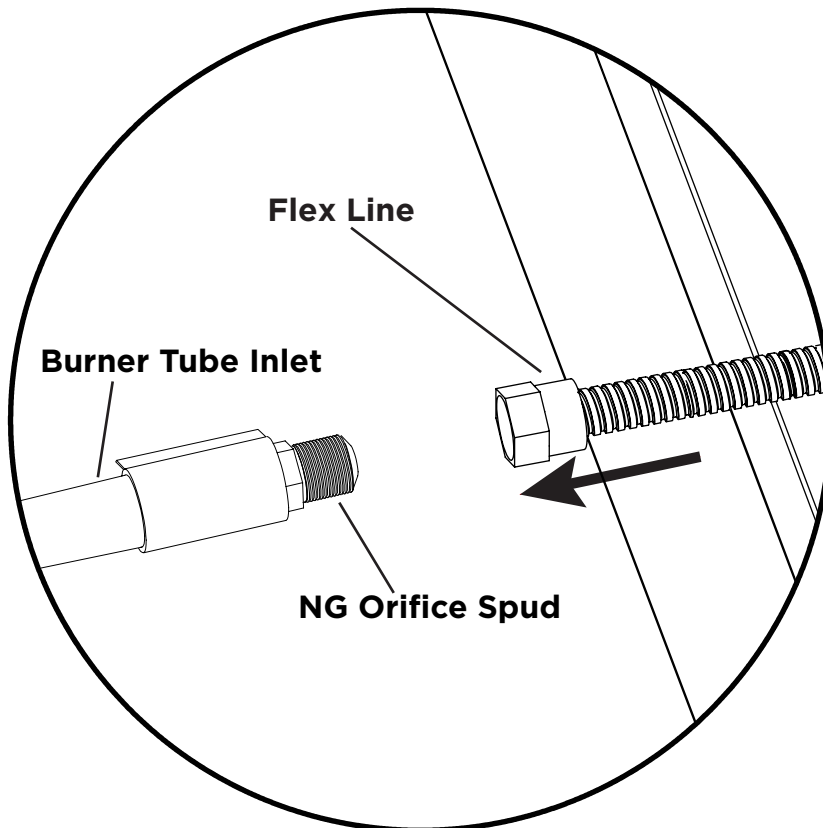

**Fig. 1**
6. Slip the sleeve over the primary air opening (see Fig. 1). Next, screw the new NG orifice spud into the burner tube inlet (see Fig. 2).